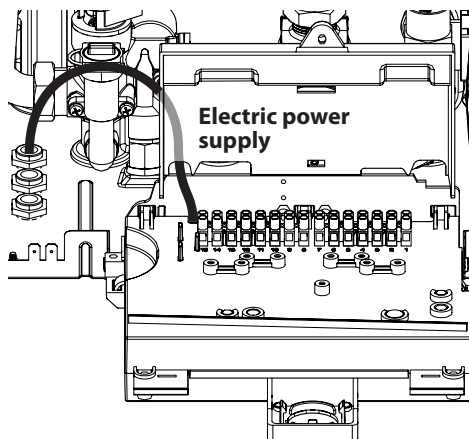

Figure 5.21
- Connect the electric power supply cable to the all-pole switch, respecting the correspondence of the power line (brown wire) and the neutral (blue wire) Figure 5.21.